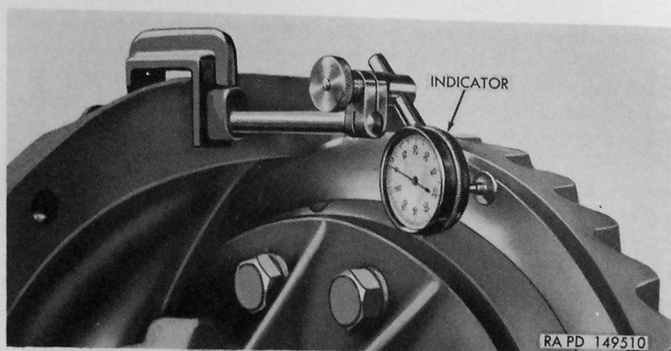

Figure 146. Checking drive gear runout with dial indicator 41-1-100.
- (6) *Final bearing cap tightening.*—Tighten two $\frac{11}{16}$ -11 x $\frac{3}{8}$ cap screws (D) at each bearing cap to a torque of 130 to 160 pound-feet.
- (7) *Checking drive gear runout.*—Install a dial indicator 41-I-100 in manner illustrated in figure 146. Rotate differential assembly slowly and note total runout. Drive gear runout limit is 0.004 inch.
- (8) *Installation of adjusting nut locks.*—Install one bearing adjusting nut lock (G) at each bearing cap, being sure that ears on lock engage bearing adjusting nut. Secure lock with $\frac{5}{16}$ -18 x $\frac{5}{8}$ cap screw (E) and $\frac{5}{16}$ -inch lock washer (F) and tighten cap screw.
- (9) *Installation of thrust pad and screw.*—Install new thrust pad (DD) on thrust pad screw (CC) and thread screw into carrier until thrust pad just contacts drive gear. Rotate differential slowly and note any variations in contact of thrust pad against drive gear. Adjust thrust pad at point of maxi-